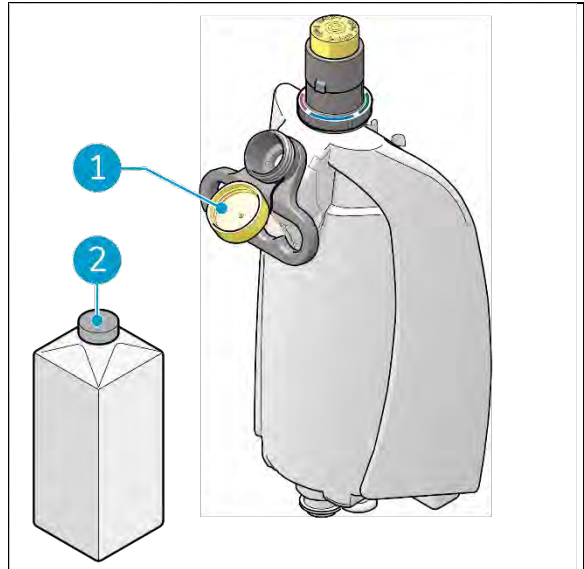

Figure 16
1. Remove the yellow cap (Figure 16, pos. 1).
2. Pour in a maximum of 1 gal / 4 L of water (Figure 16, pos. 2).
3. But back the yellow cap (Figure 16, pos. 1) and make sure it seals tightly.
8. Press the i-dose injector button (Figure 16, pos. 5) to dispense the contents of the i-dose pod.
9. Turn the indicator ring so that the color corresponding to the i-dose pod is facing towards you (Figure 16, pos. 3).